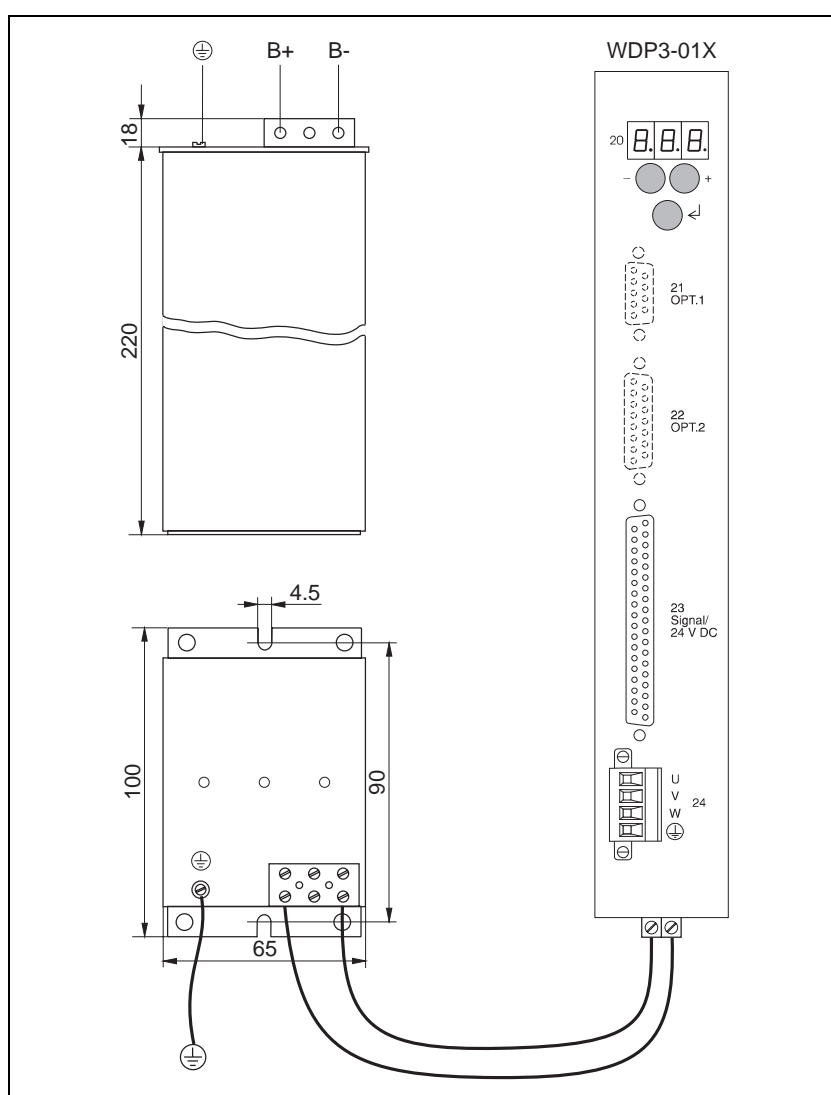

Fig. 6-8 Additional bleed resistor
- 6.2.5 Additional bleed resistor** The additional bleed resistor FZP 200 (180 ohms, 150 W) can be used for dissipating a larger amount of braking energy (fig. 6-8).